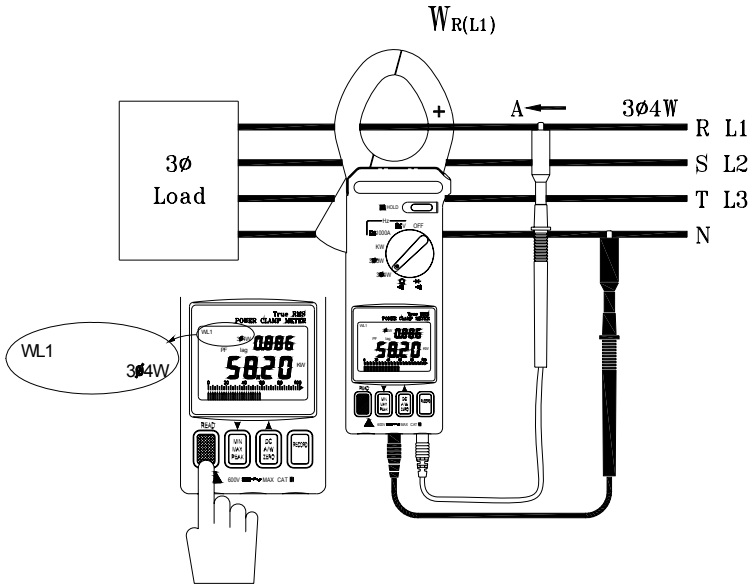

Figure 7
**B. Measure  $W_S(L2)/P_{FS(L2)}$  (refer to figure 7)**